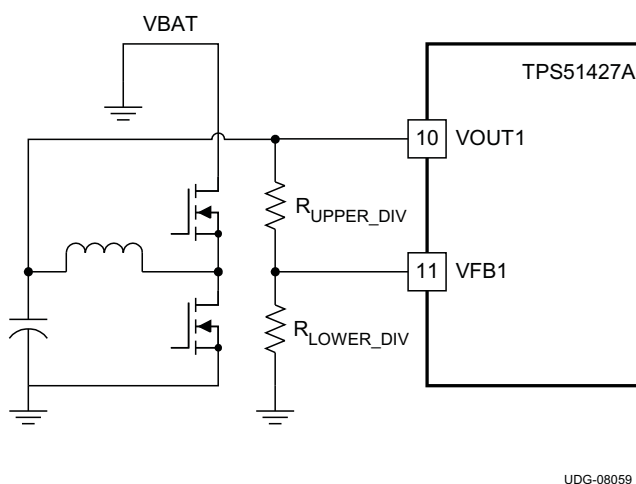
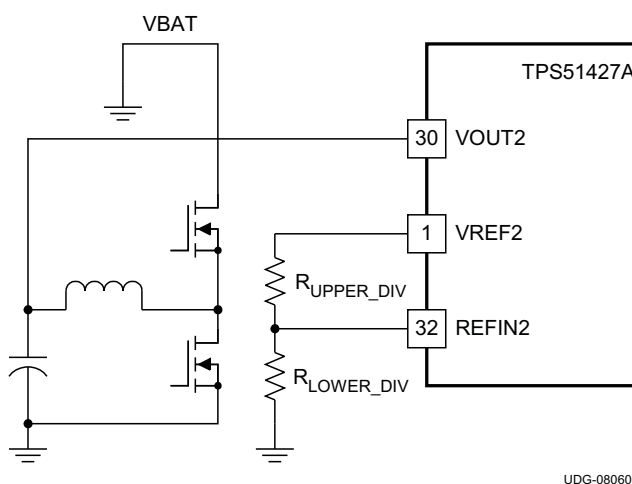

Figure 46. Channel1 Adjustable Voltage Configuration
Figure 47. Channel2 Adjustable Voltage Configuration
For the fixed 5 V/3.3 V option, tie VFB1 pin to GND and REFIN2 to V5FILT. For the fixed 1.5 V/1.05 V configuration, tie VFB1 to V5FILT and REFIN2 to VREF3. TPS51427A also supports adjustable voltage options for both channels. The adjustable range for Channel1 is between 0.7 V and 5.9 V and for Channel2 is between 0.5 V and 2.5 V. Figure 46 shows how to configure the adjustable voltage option for Channel1 and Figure 47 shows the configuration for Channel2. Also, equations are provided in Table 5 to aid the design process.
| ADJUSTABLE VOLTAGE OPTIONS | <p>VOUT1 is set by RUPPER_DIV, RLOWER_DIV, and VFB1 <a href="#">Figure 46</a></p> $V_{VOUT1} = V_{VFB1} \times \left( \frac{R_{UPPER\_DIV} + R_{LOWER\_DIV}}{R_{LOWER\_DIV}} \right) \quad (7)$ <p>where</p> <ul style="list-style-type: none"> <li>VVFB1 = 0.7 V</li> </ul> |                                  | <p>VOUT2 is set by RUPPER_DIV, RLOWER_DIV, and VFB1 <a href="#">Figure 47</a></p> $V_{REFIN2} = \left( \frac{(R_{LOWER\_DIV} \times V_{VREF2})}{(R_{UPPER\_DIV} + R_{LOWER\_DIV})} \right) \quad (8)$ <p>where</p> <ul style="list-style-type: none"> <li>VVREF = 2 V</li> <li>VVOUT2 = VREFIN2</li> </ul> |                                    |